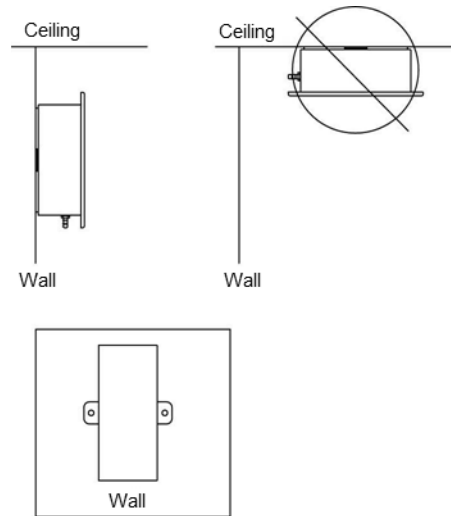

Figure 8: Pressure Transducer Mounting
- Mount the pressure transducer within 10 feet of the flow station. The transducer must be mounted on a wall in the correct position per Figure 8 (screws not provided).